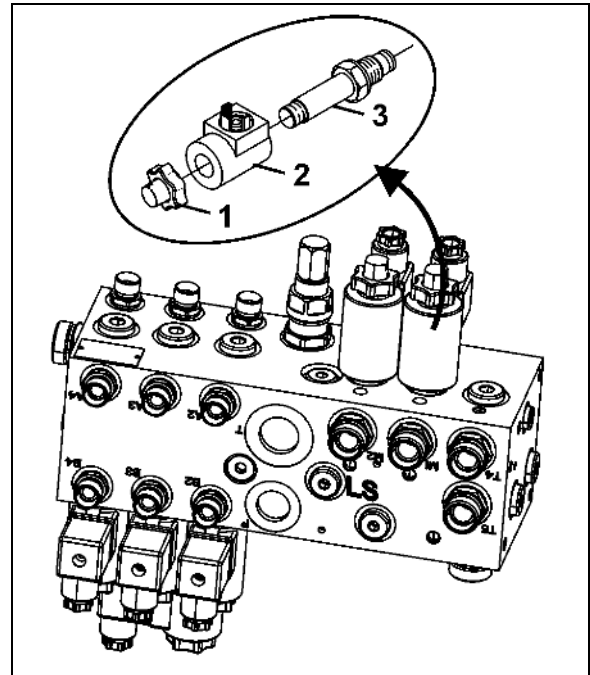

Fig. 59
2. Unscrew the magnetic cap (Fig. 59/1)
3. Remove the solenoid (Fig. 59/2)
4. Unscrew the valve rod (Fig. 59/3) with valve seats and clean with compressed air or hydraulic fluid.